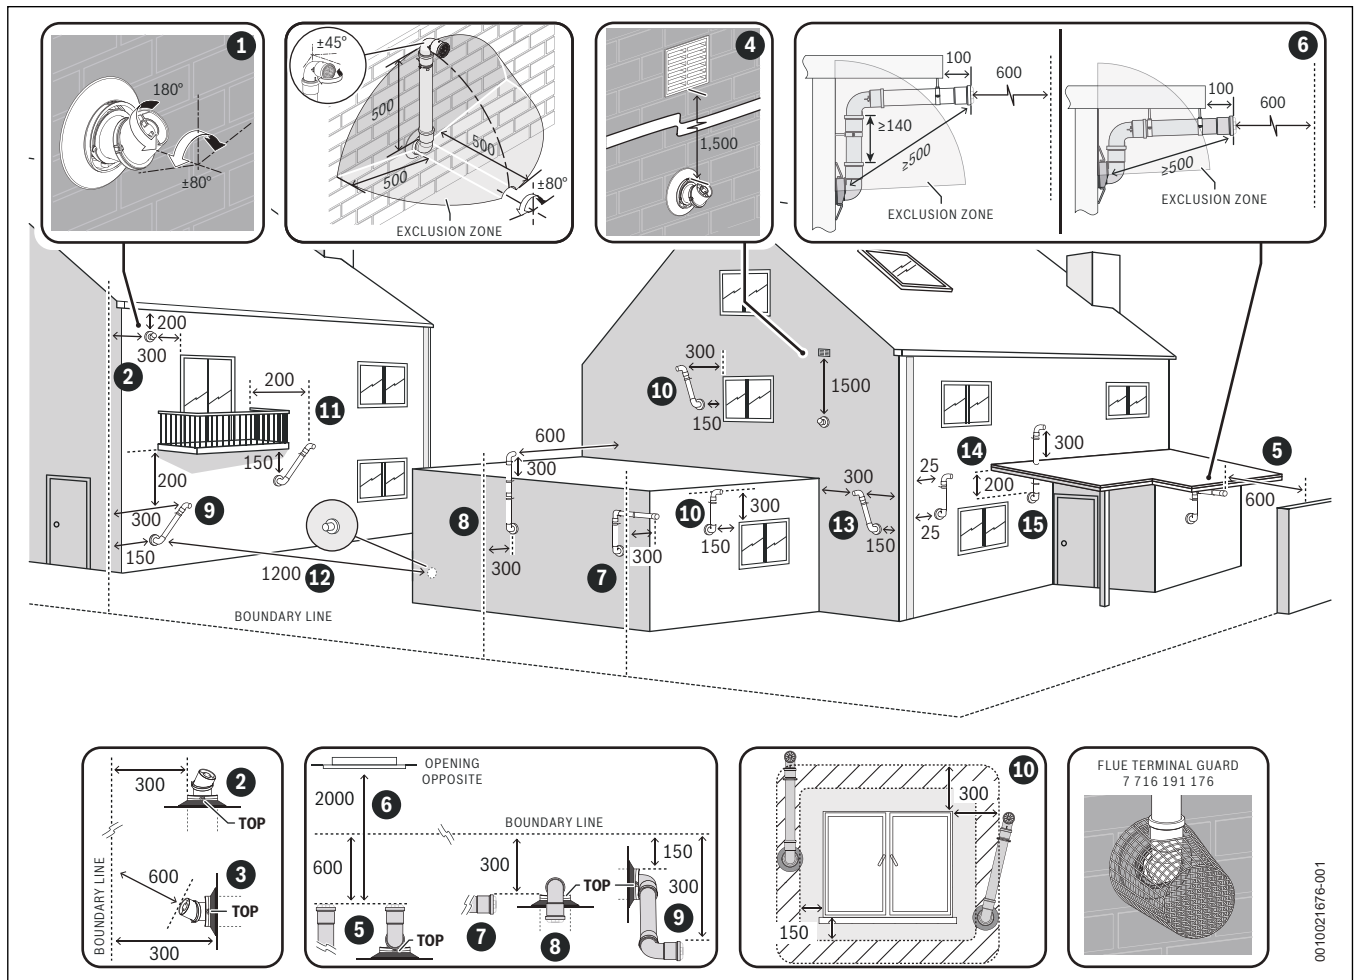

Fig. 31 Plume re-direct and plume management terminal positions
- ▶ Refer to “Horizontal flue terminal positions” for all concentric flue terminal positions unless the flue position is specified in figure 31 “Plume re-direct and plume management terminal positions”.
**Key to figure 31 - Plume re-direct terminal positions:**
**Key to figure 31 - Plume management terminal positions:**